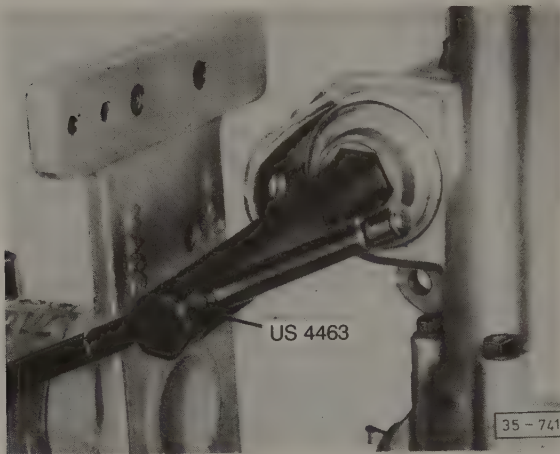

Fig. 6-7. Selector shaft cover being removed. Hex socket size is 27mm. Use short bolt (27mm head) and locknuts with wrench in place of special tool shown.
6. To gain access to the selector shaft, remove the selector shaft cover as shown in Fig. 6-7. Use care to avoid losing the spring as the cover is removed. Remove the selector shaft by hand-pressing it out through the cover opening.